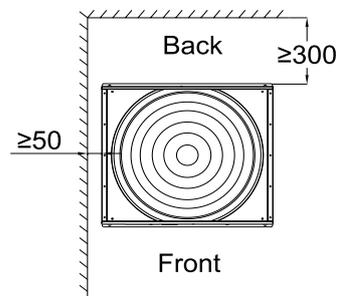

Figure 2
- Obstacles in the back and sides (see Figure 2)